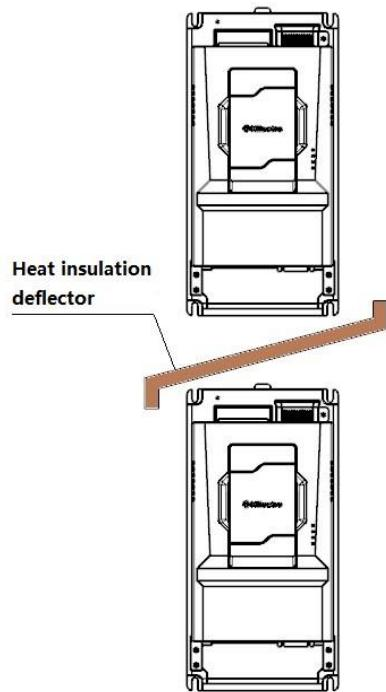

Figure 3.3 Up & down row installment
- 2) Please install the drive vertically, which helps upward heat output. The parallel installment is required in needs of several drives. And in occasion of up & down row installment, please refer to Figure 3.3, user should make arrangement of heat insulation deflector.